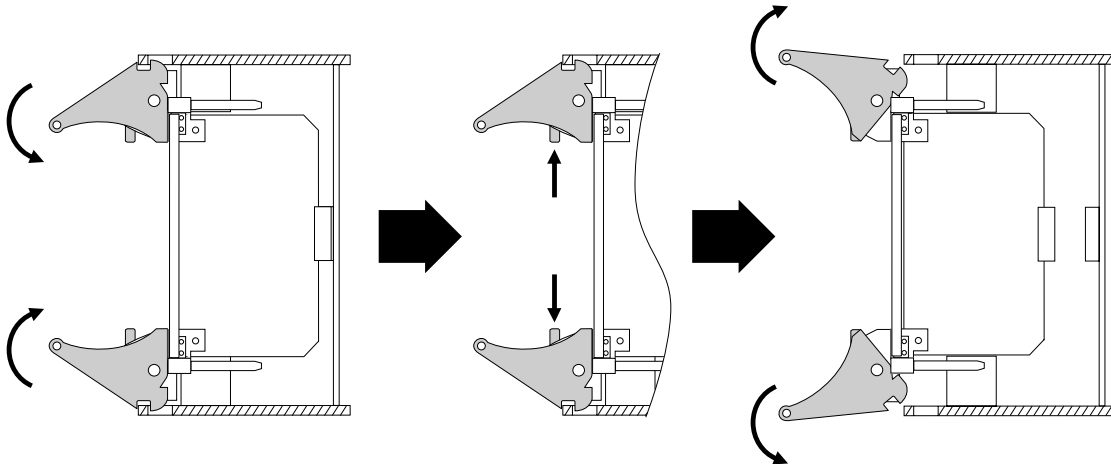

FIGURE 5-1 Injector/Ejector Operation for Board-Level Components
All hot-swappable boards use the same ejector handles to remove and install the boards into the system. FIGURE 5-1 shows the proper way to remove or insert a hot-swappable board into a system.
3. Fully open the ejector handle, rotating it outward until the board disengages from the midplane (FIGURE 5-1).
2. Prepare the distributed management card by opening its injector/ejector handle (FIGURE 5-1).
3. **Open the ejectors fully, rotating the handles outward until the board disengages from the midplane (FIGURE 5-1).**
3. Prepare the switching fabric board by opening its injector/ejector handles (FIGURE 5-1).